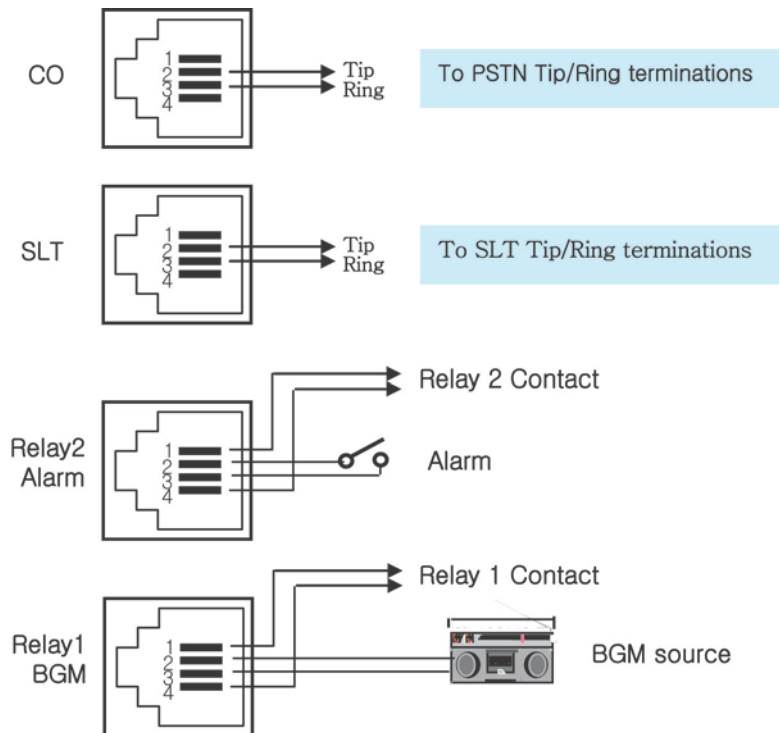

Figure 4.5.17-3 RSGM Connections
On the rear panel, there are four (4) RJ-11 connectors. The upper most connector is for an analog CO line, which should be wired to the telephone company termination point. For detailed connection, see Figure 4.5.17-3.
The 2nd RJ-11 connector is for an SLT, which should be wired to the SLT termination point as detailed in Figure 4.5.17-3.
The 3rd and 4th RJ-11 connectors are used for external alarm/door bell input, external BGM input and two (2) dry relay contacts. For detailed connection, see Figure 4.5.17-3.
- Wire each RJ-11 for miscellaneous connections as shown in Figure 4.5.17-3.